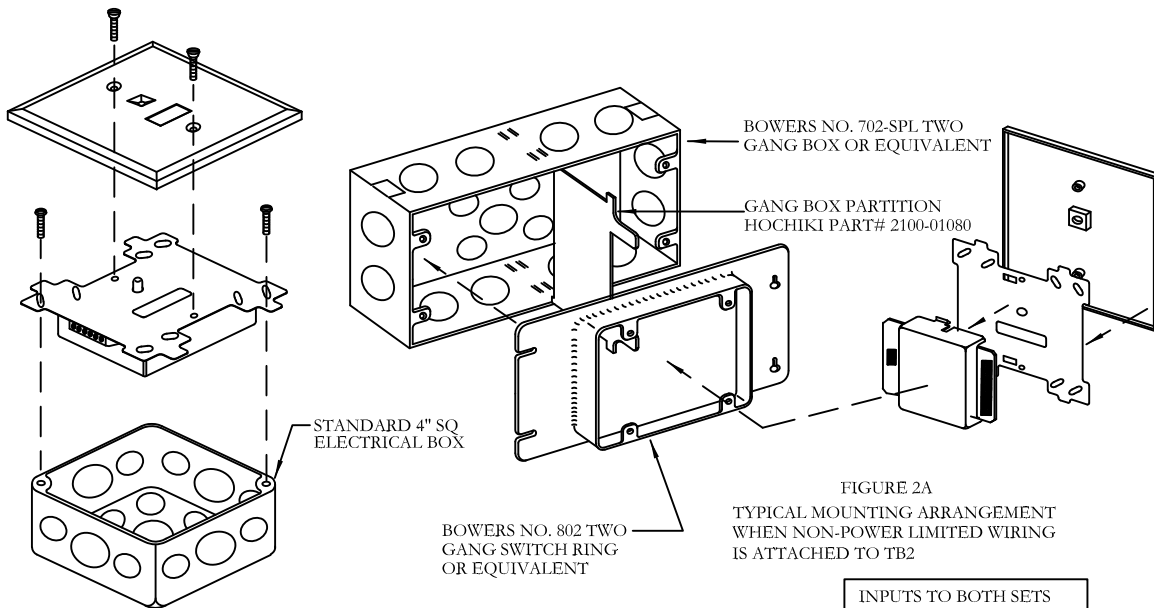

FIGURE 2
The DCP Relay module is mounted as shown in Figures 2 and 2A on page 2 of this instruction.
- 2) Secure the module to a U.L. listed electrical box (supplied by installer), as shown in Figures 2 and 2A.